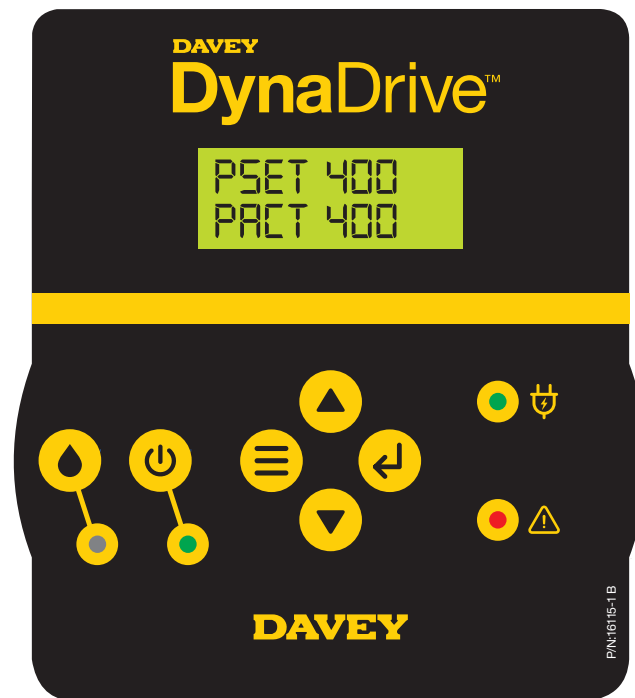

Figure 7.1
- The green  **Automatic LED** will turn off, see figure 7.1;